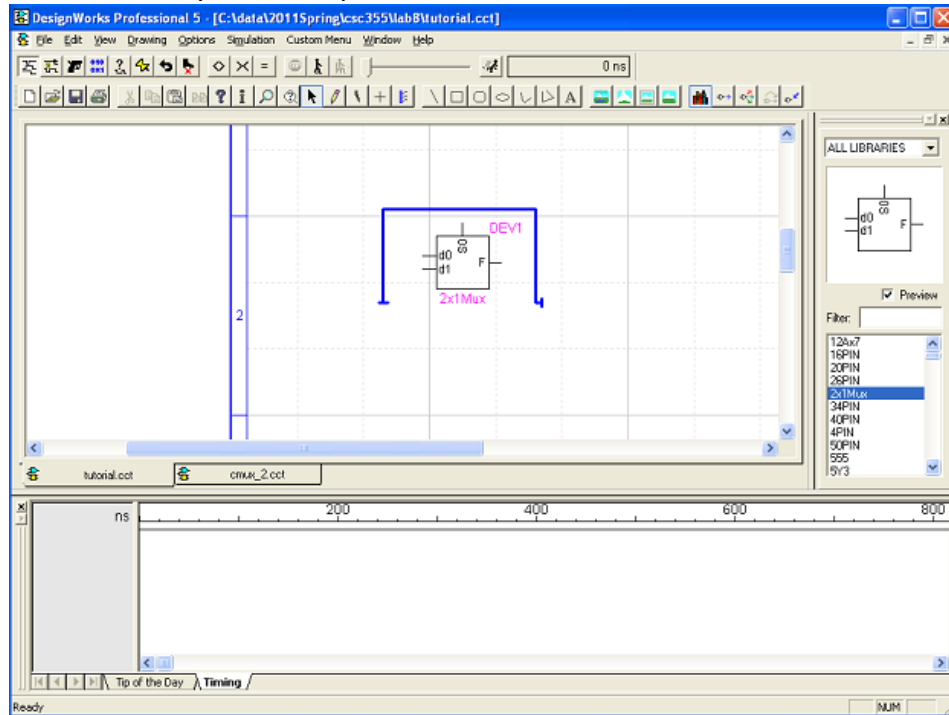

Figure 12
- a. Click on the bus symbol and place it around the “2x1 Mux”, as shown in Figure 12.